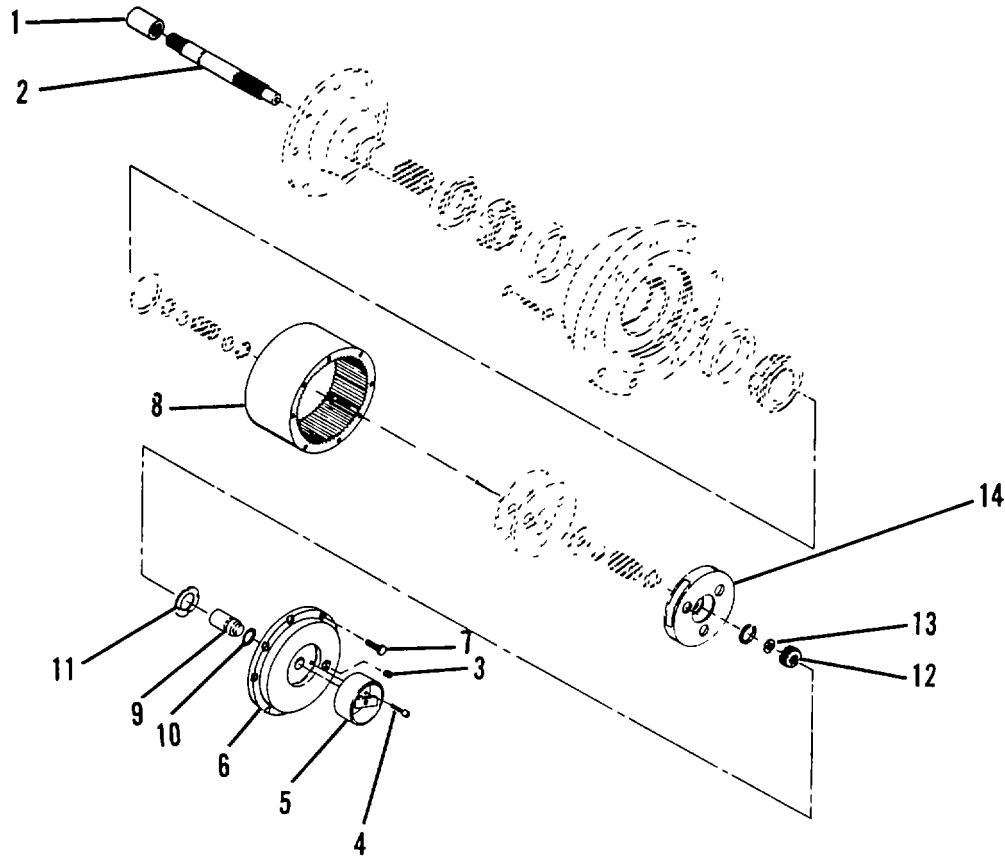

Figure 4-14. Drive Hub Assembly (Sheet 1 of 3).
- (d) Slide coupling (1, Figure 4-14) off input shaft (2).
- (e) Remove plug (3) and drain gear lube into a suitable container.
- (f) Remove two socket head capscrews (4) securing lockout mechanism (5) to cover (6).
- (g) Remove eight capscrews (7) securing cover (6) to ring gear (8). Tap cover with soft faced mallet and remove.
- (h) Remove disengage plunger (9), preformed packing (10) and thrust washer (11).
- (i) Remove small sun gear (12) and thrust washer (13) from end of input shaft (2).
- (j) Remove primary carrier assembly (14).